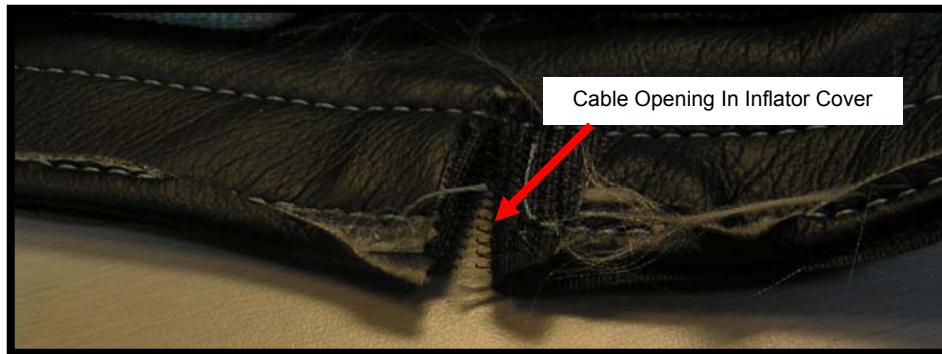

Figure 8 – Retractable Extension Cable Opening Near Hose Connector
- h. Route remainder of **Retractable Extension Cable Assembly** from inside to outside of Inflator Cover through Velcro closure (Figure 8). This opening is located near the SAA's Hose Connector.